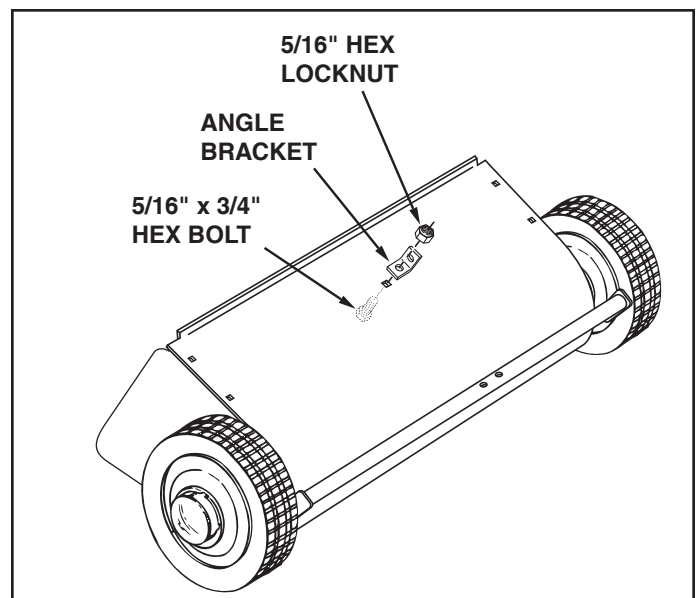

FIGURE 1
- Assemble the angle bracket to the sweeper housing using a 5/16" x 3/4" hex bolt and a 5/16" hex lock nut. Make sure the bracket is turned as shown and aligned straight with the housing and then **tighten**. See figure 1.